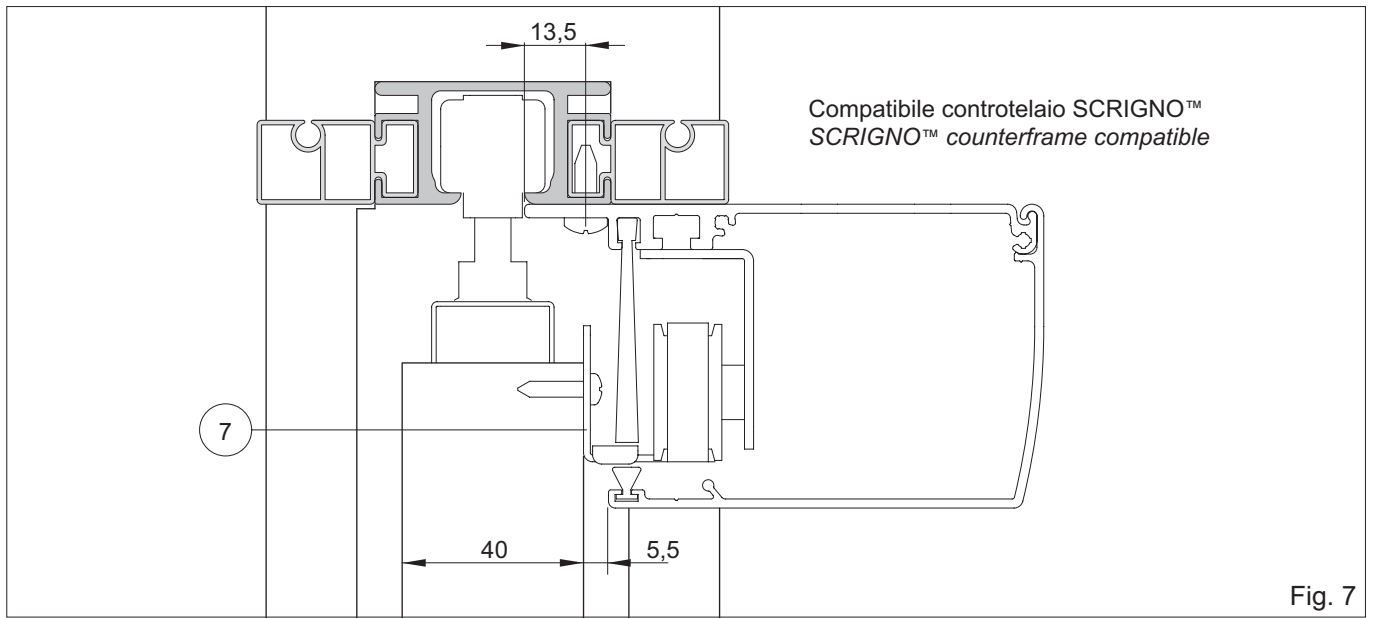
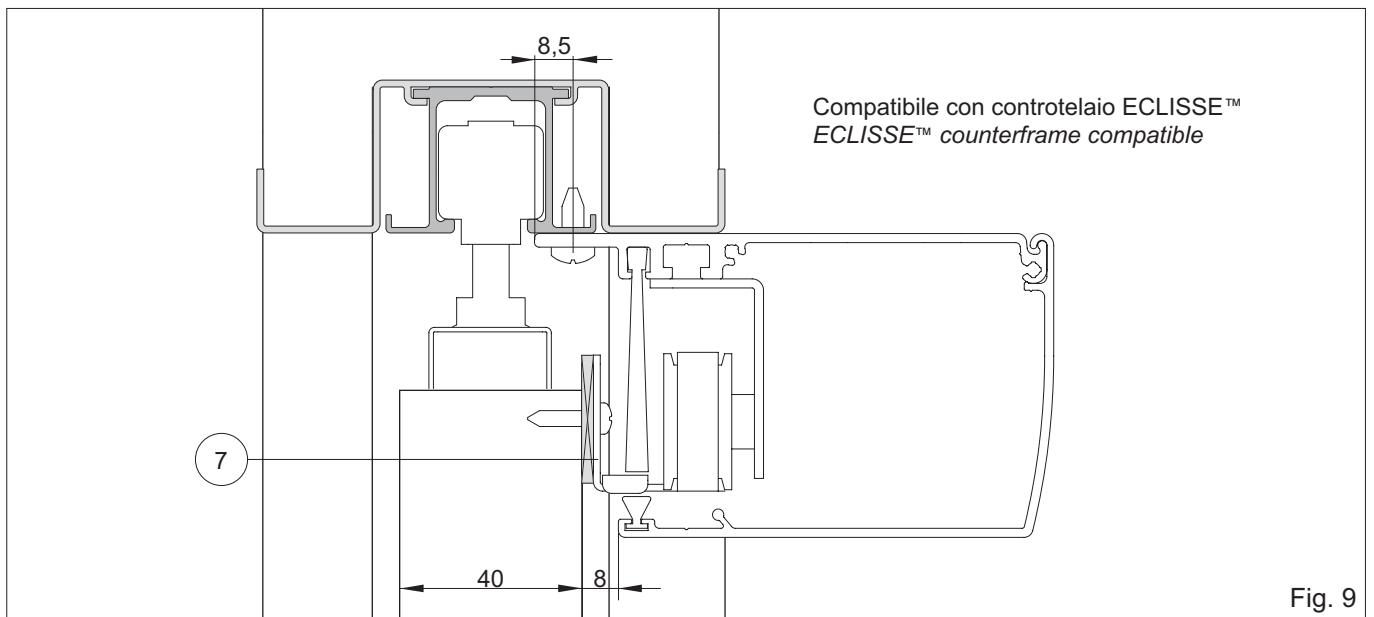

Fig. 7
Fig. 9
- Fix the box to the upper guide of the door as shown in fig. 7 (Scrigno model) or in fig. 9 (Eclisse model).